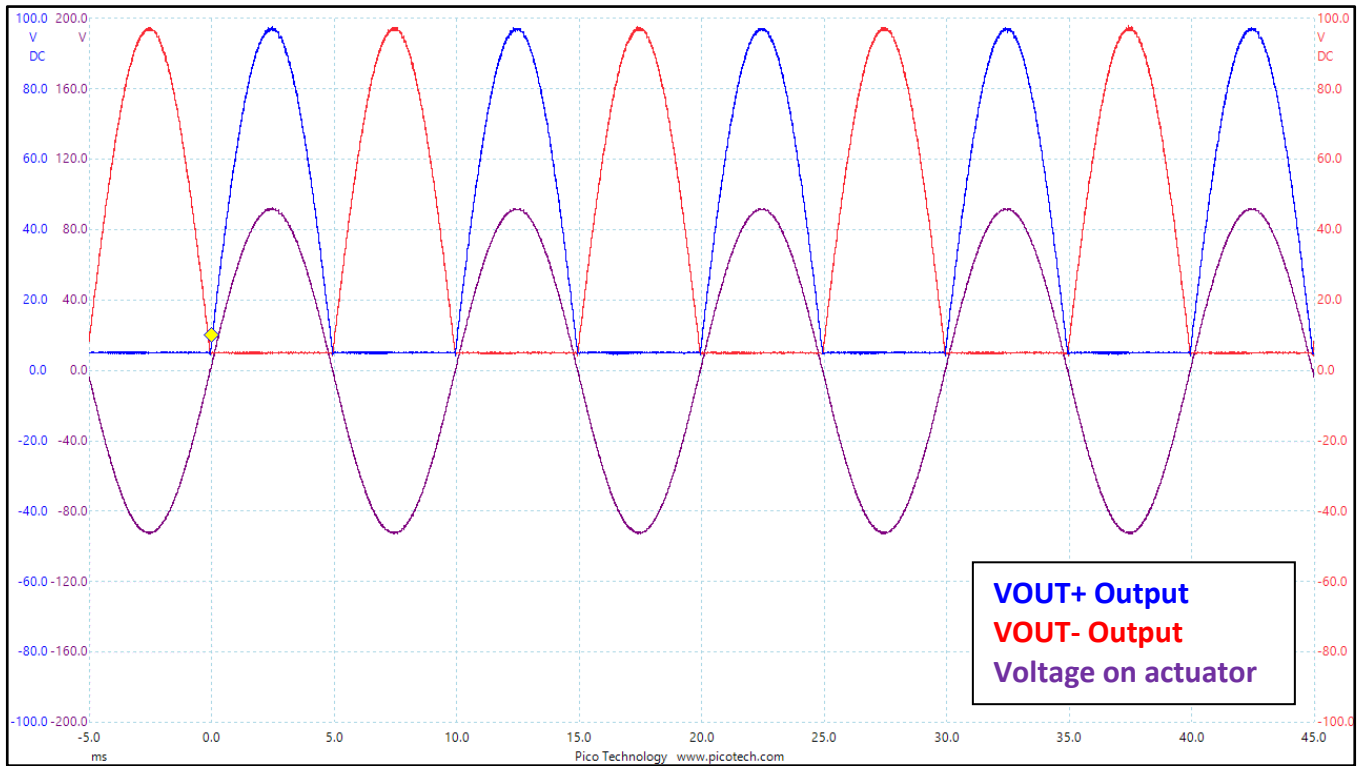

Figure 12 Typical output of a 95V bipolar output waveform measurements on an oscilloscope
- Use an oscilloscope with a separate channel for each of the actuator terminals. It is possible to use a differential probe but checking OUT+ and OUT- separately will provide information on the DC level of the signals. Never connect the probe ground clip to one of the actuator terminals. Figure 12 gives an example of such output for a 95 V bipolar sine wave. The blue line is OUT+, red line is OUT- and the purple line is the math difference between them. Note, both signals are offset by  $V_{DD}$ .